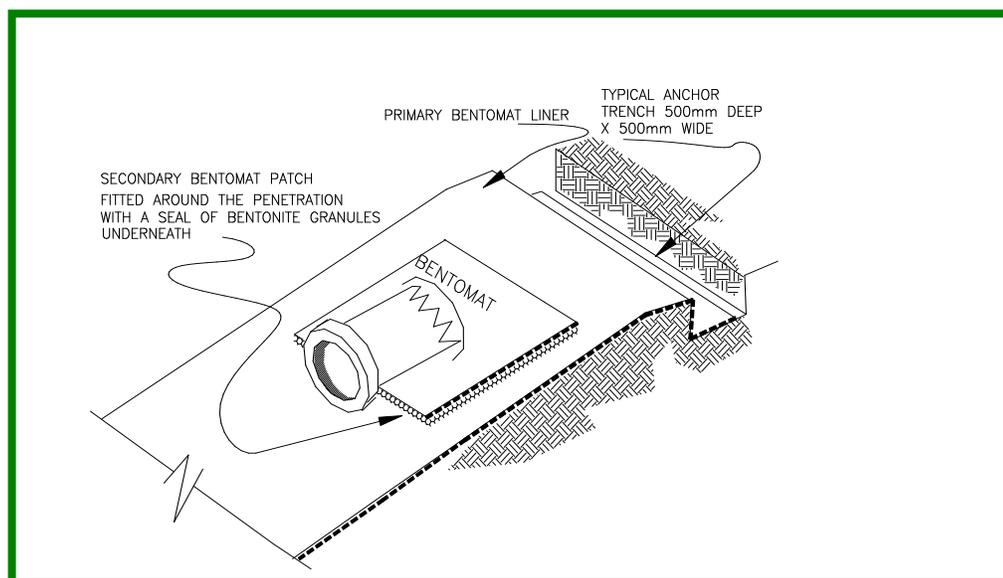

Figure 4b. Isometric view of completed horizontal pipe penetration.
- 8.4 A secondary collar of GCL should be placed around the penetration as shown in Figure 4b. It is helpful to first trace an outline of the penetration on the GCL and then to cut a “star” pattern in the collar to enhance the collar’s fit around the penetration.